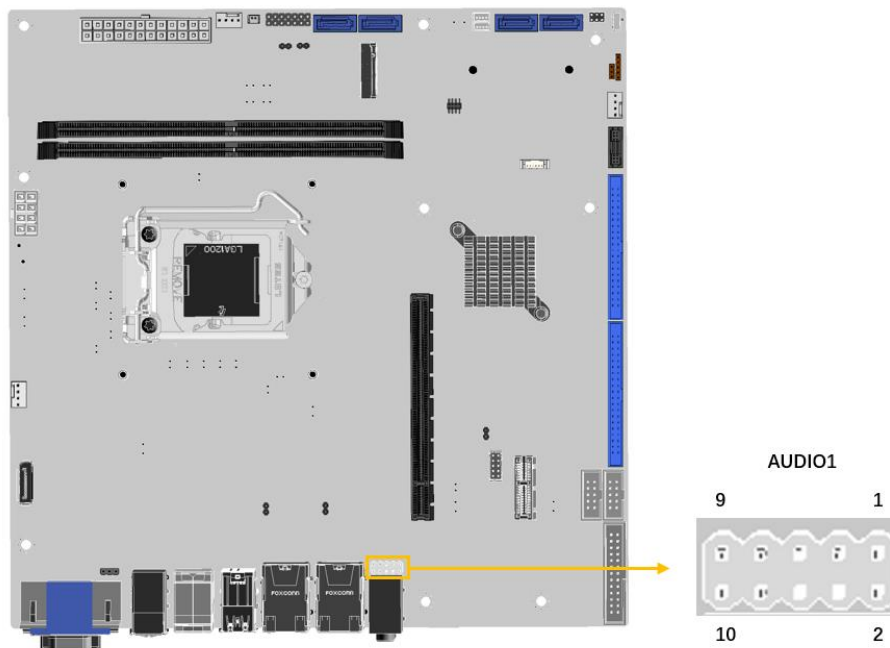

Figure 3-9: Audio Connector Location
- CN Location:** See **Figure 3-9**